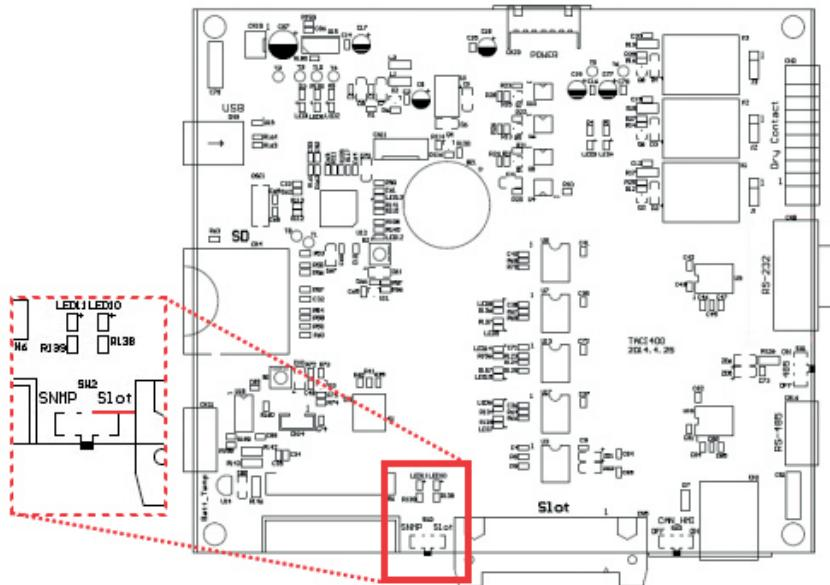

Fig. 2 TACI4XX PCB board SW2
* Check the TACI4xx PCB board SW2 is on the Slot sides Fig. 2 shows